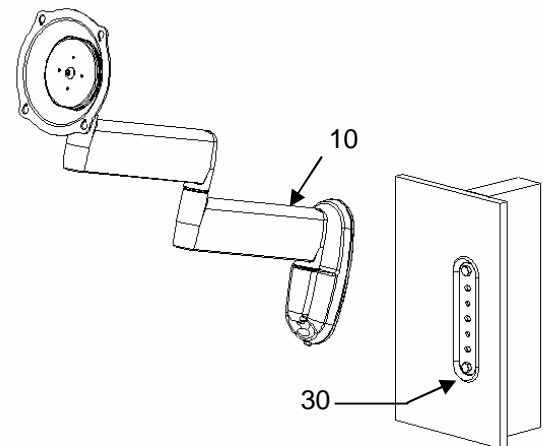

Figure 4. Attach Mount to Wall Bracket
1. Align top of mount (10) with top of wall bracket (30). Push bottom of mount against bottom of wall bracket until mount fits snugly in place (see Figure 4).